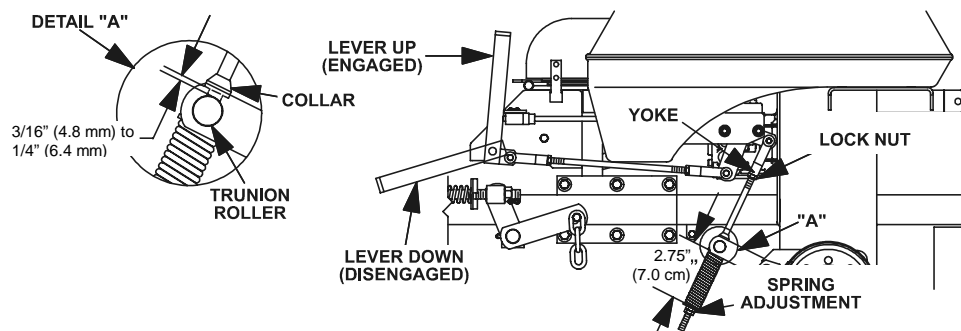

**FIGURE 14
- c) Note belt guide bolted to deck near the shield support stud and right-hand pulley. Guide should be 1/8" (3.2 mm) away from the belt, with bolt-end of guide near end of slot (See Figure 14).